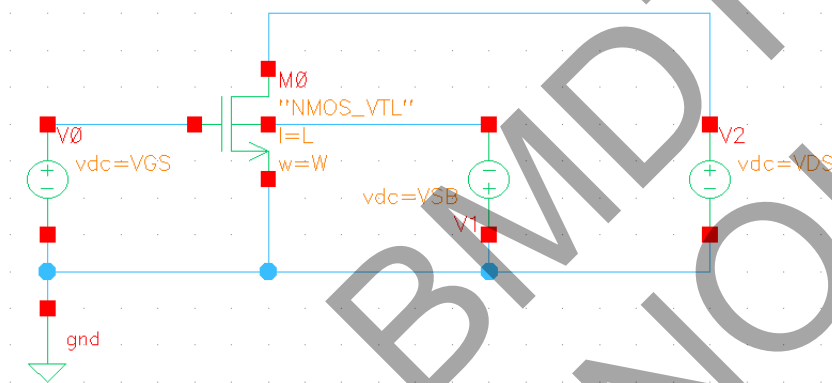
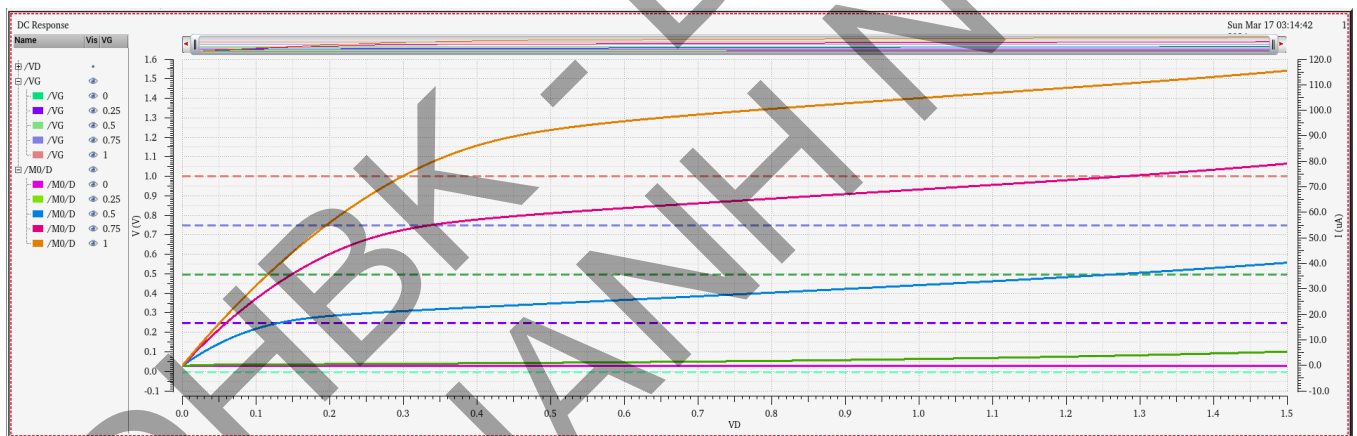

Figure 5 Testbench for experiment 2.
Figure 7 I_D vs V_{DS} @ $V_{GS} = [0, 1]$ V step 0.25V.
In fact, body effect and channel length modulation are important when analyzing the small signal, and the expression determined I_D . Assemble the testbench circuit as shown in **Figure 5**.
observed. The test setups for the NMOS are shown in **Figure 5**, which will produce the plots shown in **Figure 7** using parametric analysis.
- V_{Th0} can also be obtained from **Figure 5**. Using the saturation portion of the two curves with equal V_{ds} then V_{Th0} can be calculated as: